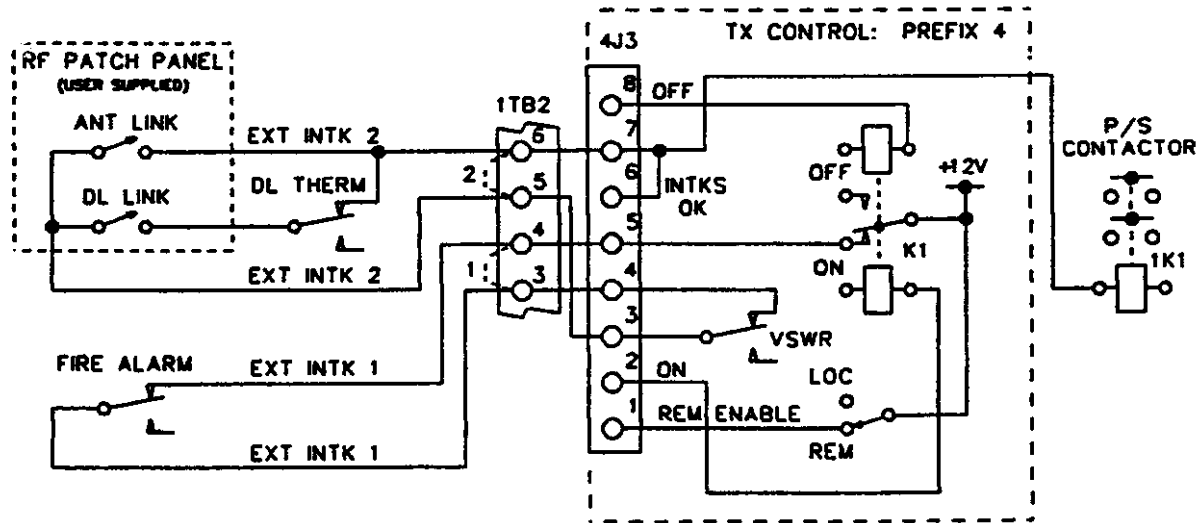

Figure 1: TTS10B and TTS50B Transmitter Interlock Connections.
1. Amplifier Chassis Assembly 40D2168G1 through 40D2168G3: Figure 1.
Figure 1 is the fundamental assembly drawing of the chassis.